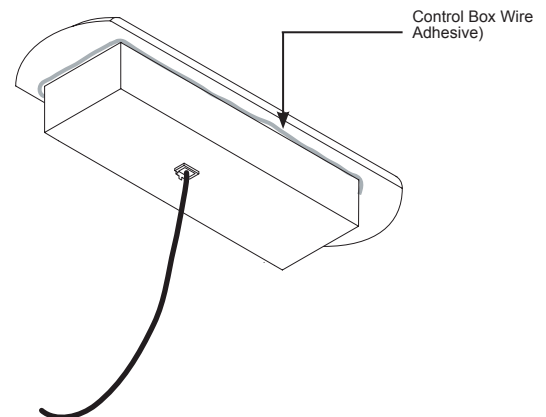

Figure 6 - Adhesive Application
- 2** Sparingly apply adhesive around the base of the control panel (Figure 6).